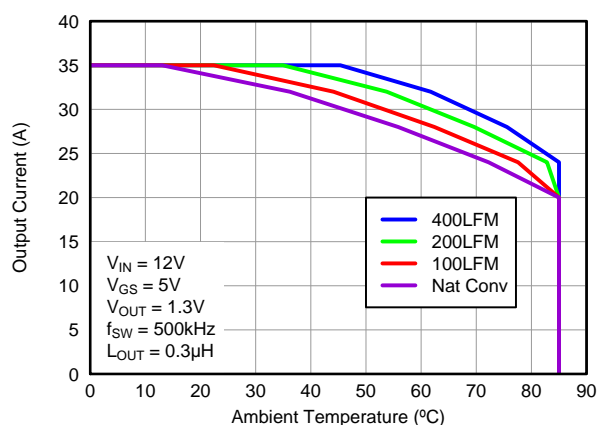
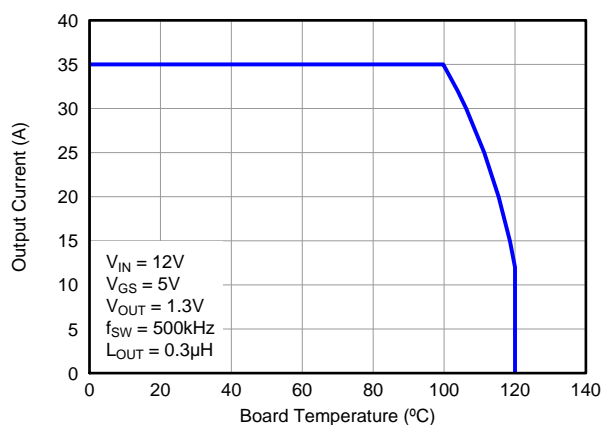

Figure 3. Safe Operating Area – PCB Vertical Mount⁽¹⁾
Figure 5. Typical Safe Operating Area⁽¹⁾
The SOA curves in the CSD87351Q5D data sheet provides guidance on the temperature boundaries within an operating system by incorporating the thermal resistance and system power loss. Figure 3 to Figure 5 outline the temperature and airflow conditions required for a given load current. The area under the curve dictates the safe operating area. All the curves are based on measurements made on a PCB design with dimensions of 4" (W) x 3.5" (L) x 0.062" (T) and 6 copper layers of 1 oz. copper thickness